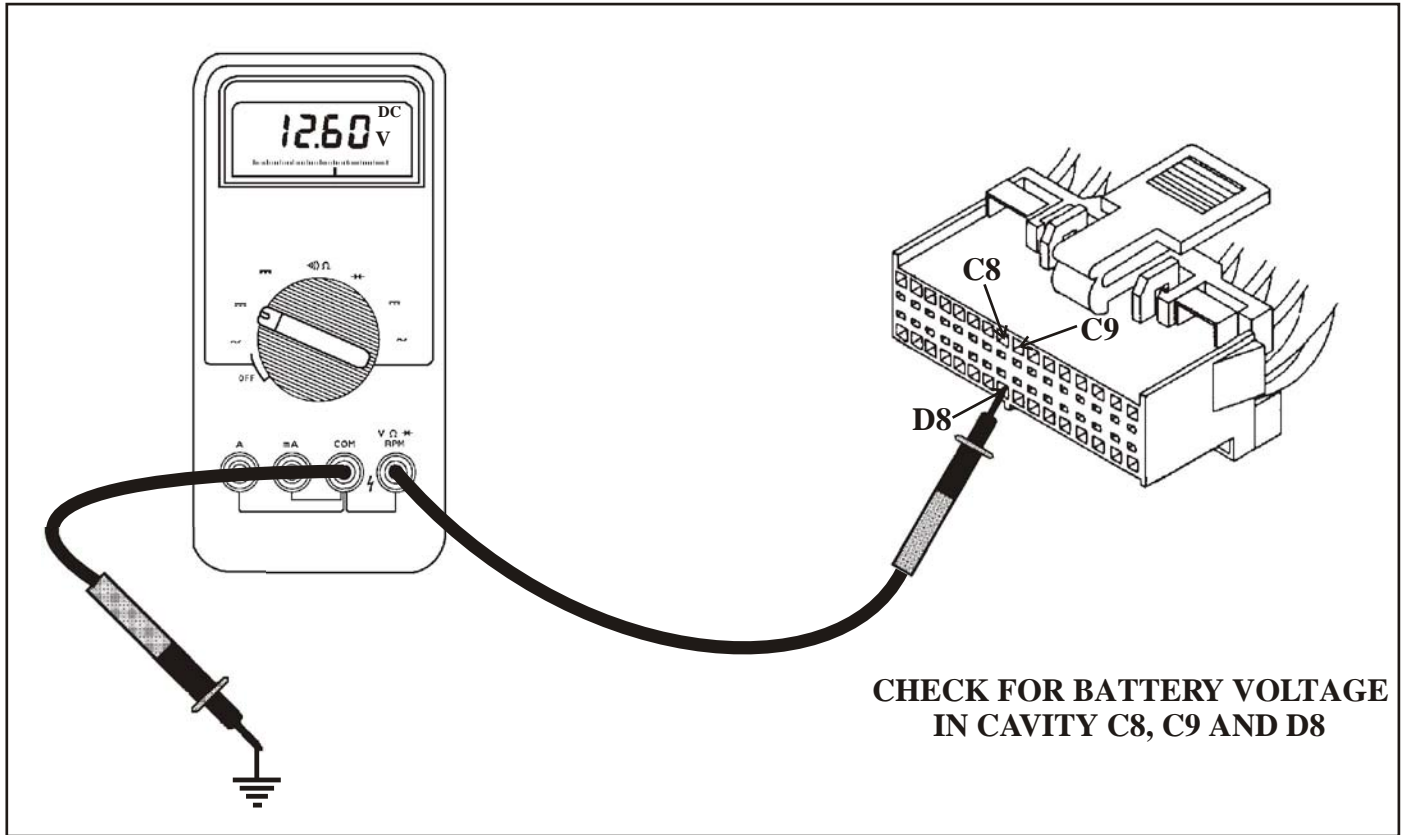
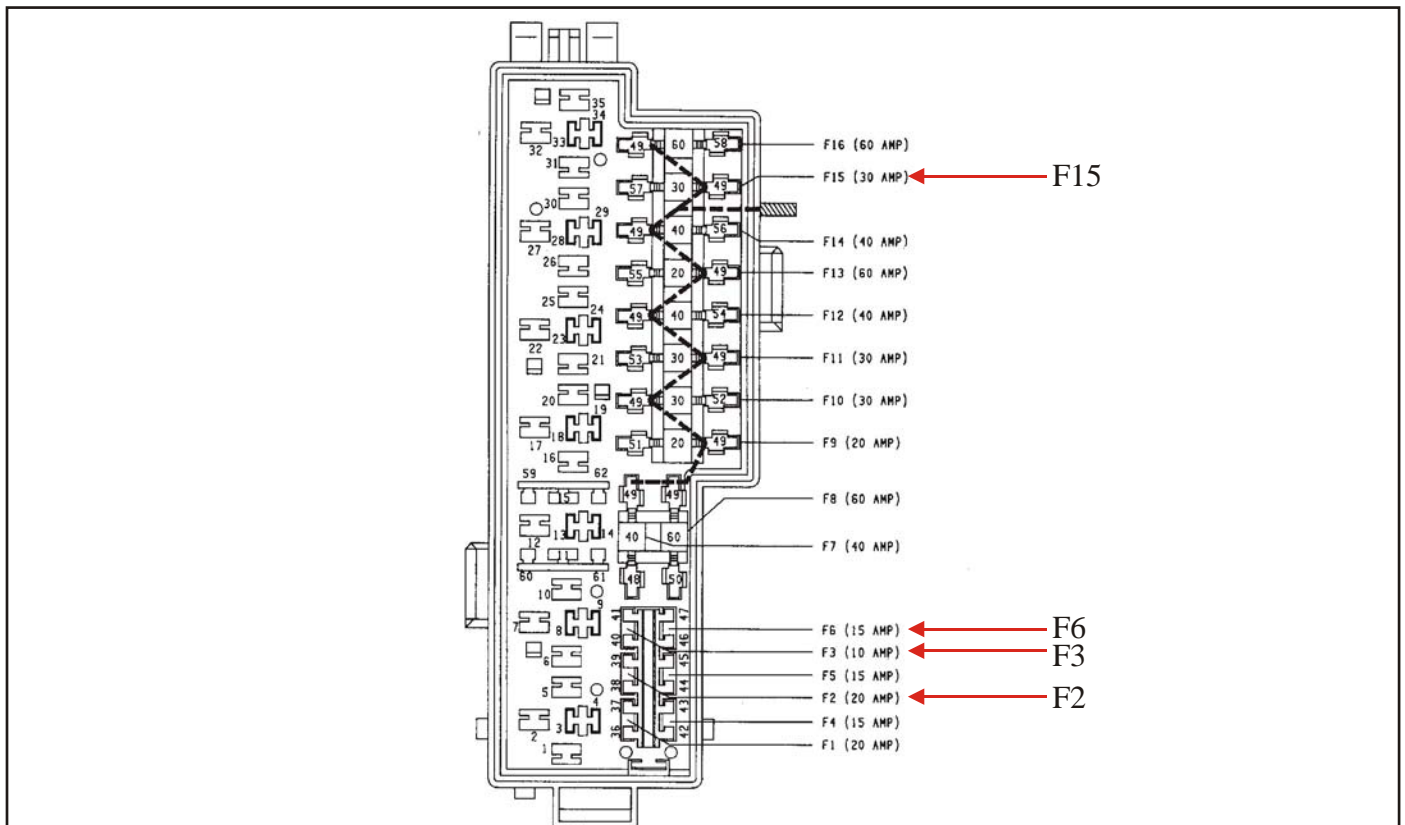

Figure 9
Figure 10
- (c) With the engine off and the ignition switch in the ON position, check for battery voltage in the transmission control module connector, on pins C8, C9 and D8, as shown in Figure 9. If battery voltage is lost at **any** one of these terminals, check for blown fuses in the power distribution center, located on the passenger side fender shield by the battery. Check fuses F2, F3, F6, F15, and replace as necessary, as shown in Figure 10. If battery voltage is seen at all three locations, continue on to the next step.